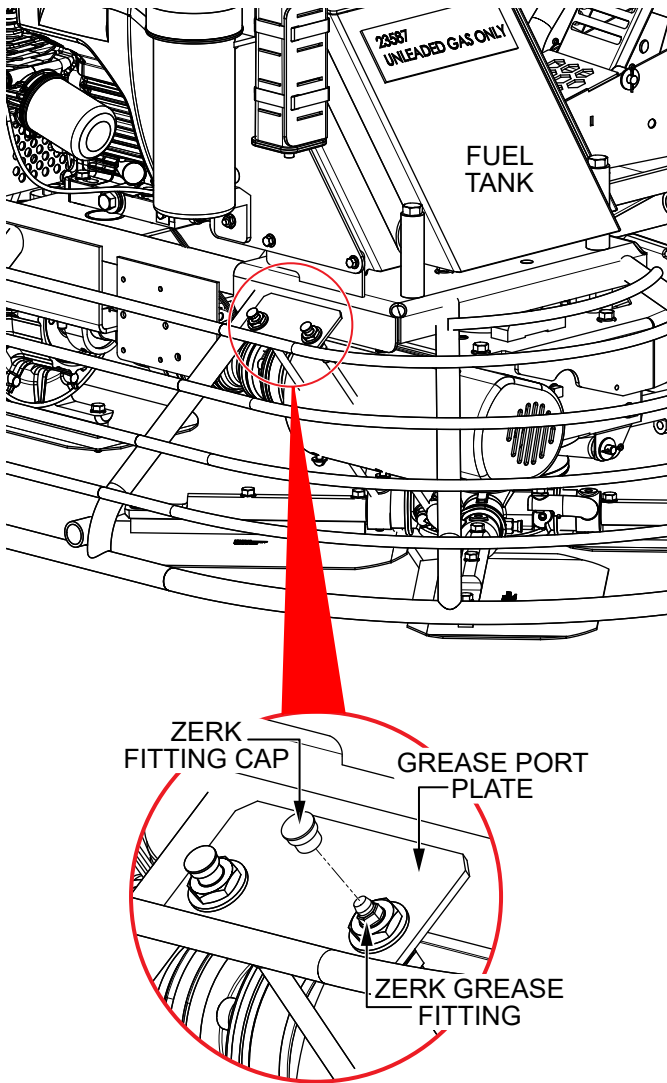

Figure 27. Pillow Block Bearing Lubrication
1. Locate the grease port plate (Figure 27) at the rear of the trowel, just behind the fuel tank. These two Zerk grease fittings lubricate the pillow block bearings.